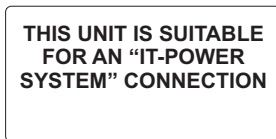

Figure 10. IT compatible label for the uninterruptible power supply
5. IT compatible label. See Figure 10.